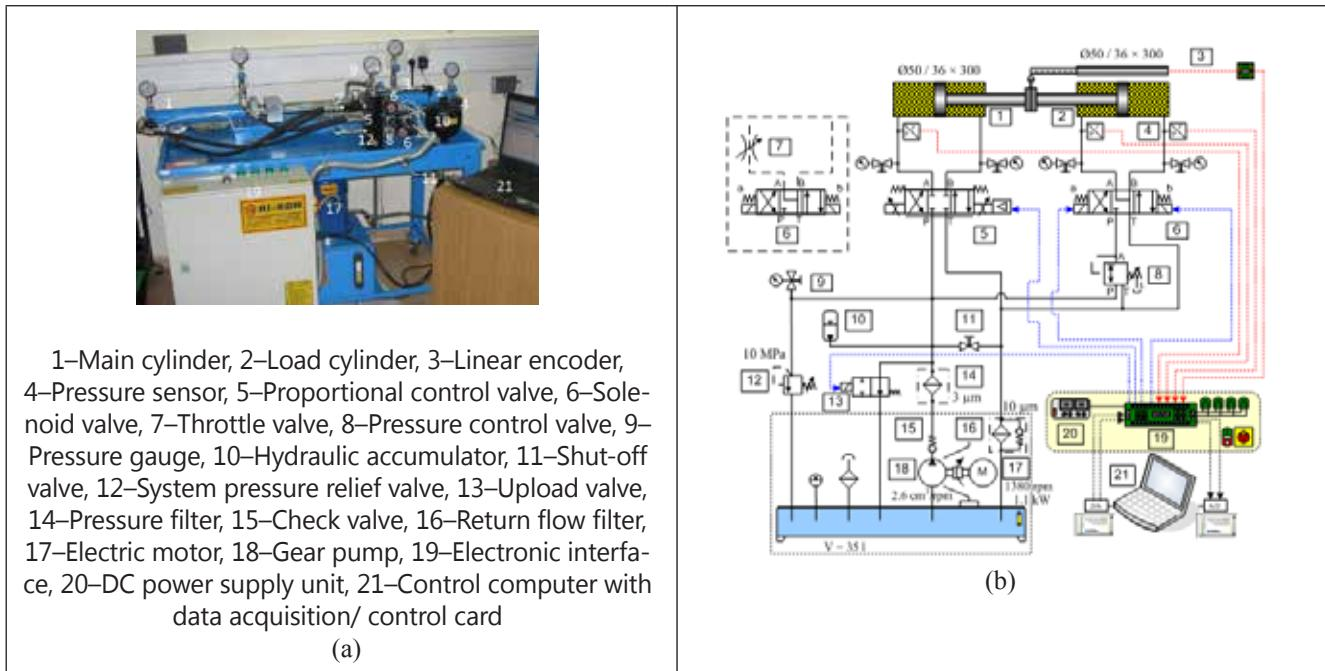

Figure 1. Electro-hydraulic system, a) photo, b) schematic diagram
The experimental system for translational motion control is shown in *Figure 1*. It consists of two hydraulic cylinders: a main cylinder (1) shown in the left part of the figure, which represents the main servo system and a load cylinder (2) shown in the right part of the figure, which represents the disturbance simulation system. Motion control of the main cylinder is achieved by using a three-way proportional directional control valve (5), (Bosch-Rexroth, model 4WRA-E-6-07) with integrated electronics and ± 10 V analogue input signal. The disturbance is generated by using a solenoid valve